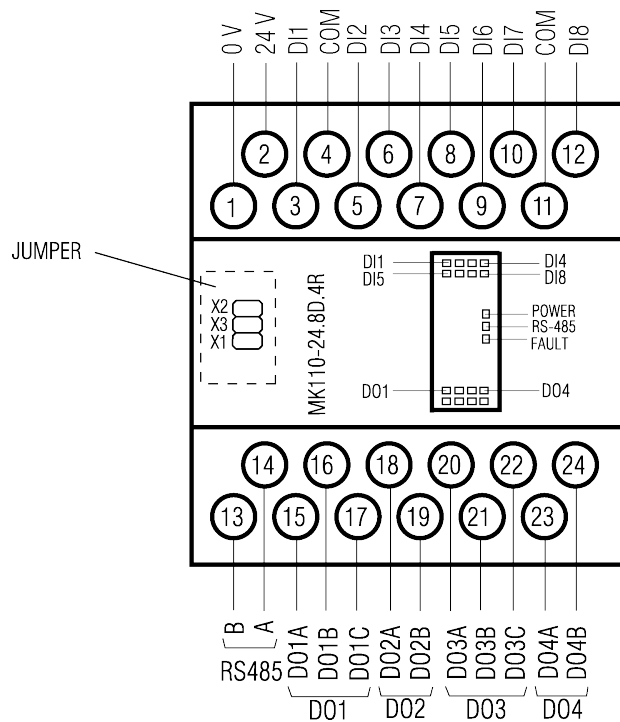

Fig. 5.1 Electrical connections
2. Open the front cover of the module (see Fig. 5.1).
The electrical connections are shown in Fig. 5.1 and the terminal assignments in Table 5.1.